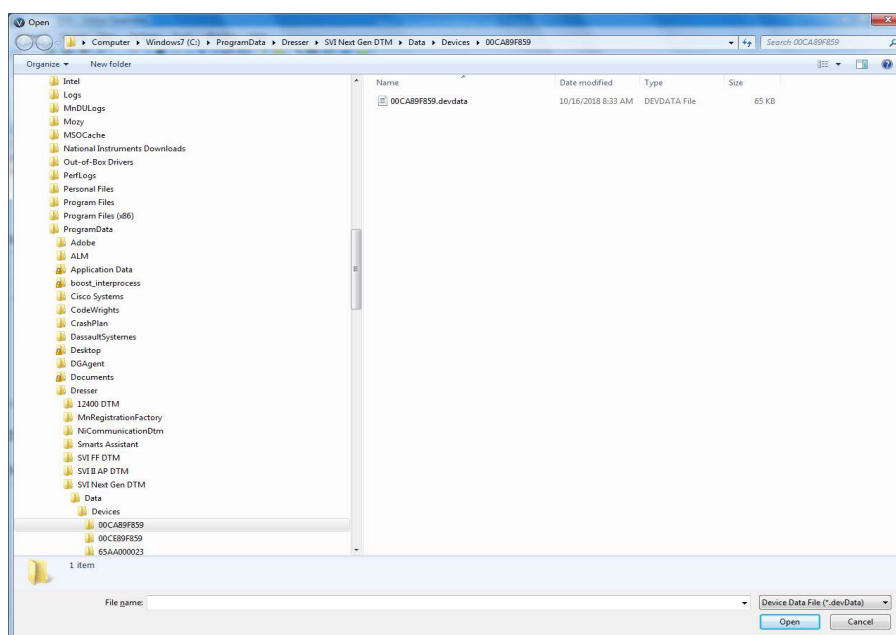

Figure 105 - Import Valve KPI: Open
1. Click **Import Valve KPI** button and Figure 105 appears.